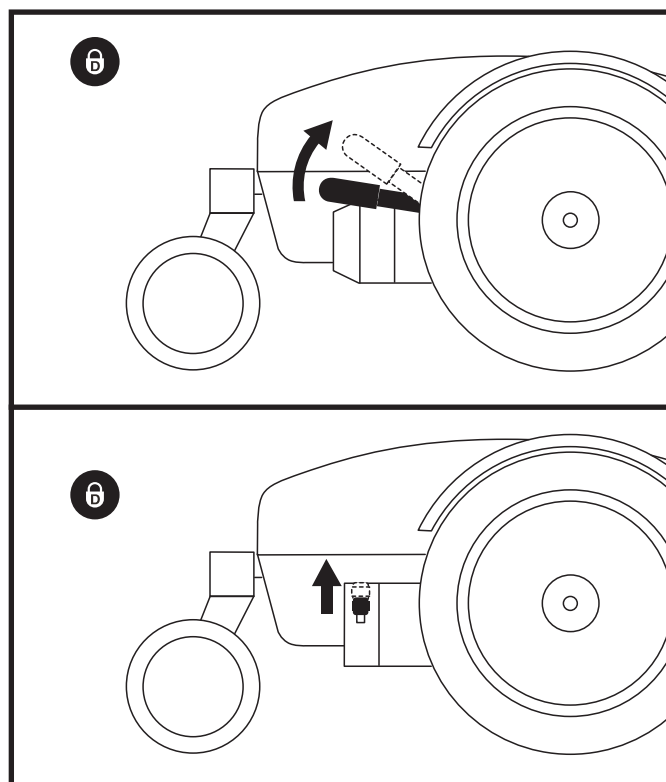

Figure 3. Freewheel Mode (Drive Engaged)
2. Pull up both manual freewheel levers for drive mode (drive motor engaged). See figure 3.